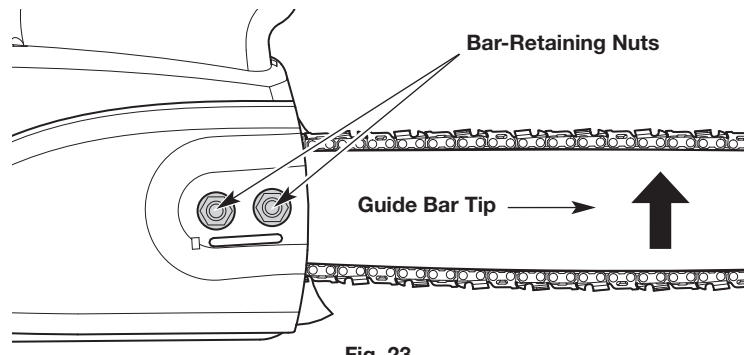

Fig. 23
1. Use a 1/2 inch (13 mm) wrench to slightly loosen the bar-retaining nuts (Fig. 23). **DO NOT** remove the bar-retaining nuts.